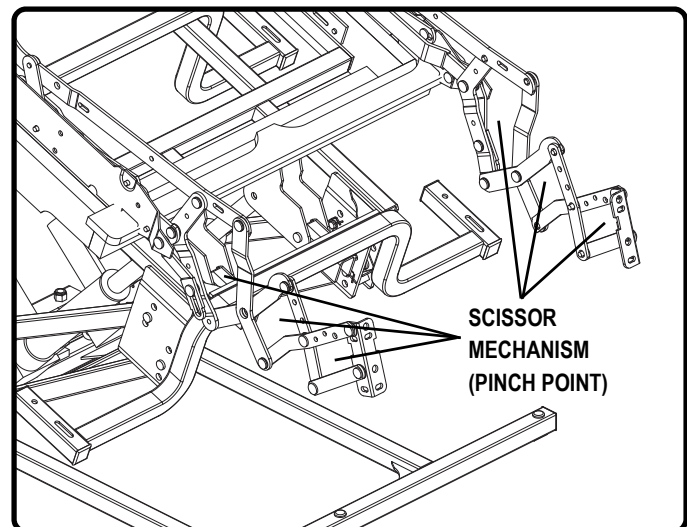

Figure 3.3 Scissor Mechanism
**Scissor Mechanisms:** Extend or retract to take the chair through the various stages of recline (**Fig. 3.3**).